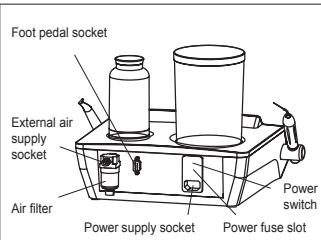

Figure 2 Back view
- 2.6.6 Turn off the power switch, connect the power cord to the power socket on the back of the main unit, and then plug in the power, as shown in Figure 2.